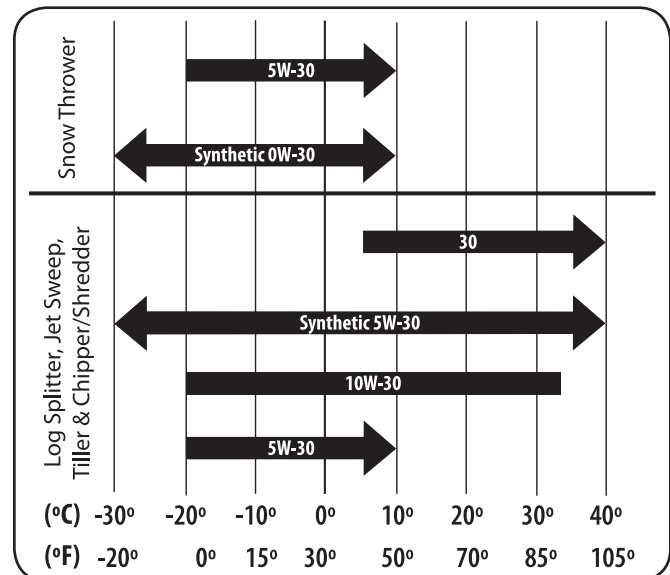

Figure 6-1
Refer to viscosity chart in Figure 6-1 for oil recommendations. Do not over-fill. Use a 4-stroke, or an equivalent high detergent, premium quality motor oil certified to meet or exceed U.S. automobile manufacturer's requirements for service classification of a minimum level SF or SG (higher letter ratings are acceptable such as SJ, SL and SM grades). Motor oil will display this designation on the container.
12. Fill with the recommended Oil. See Figure 6-1.